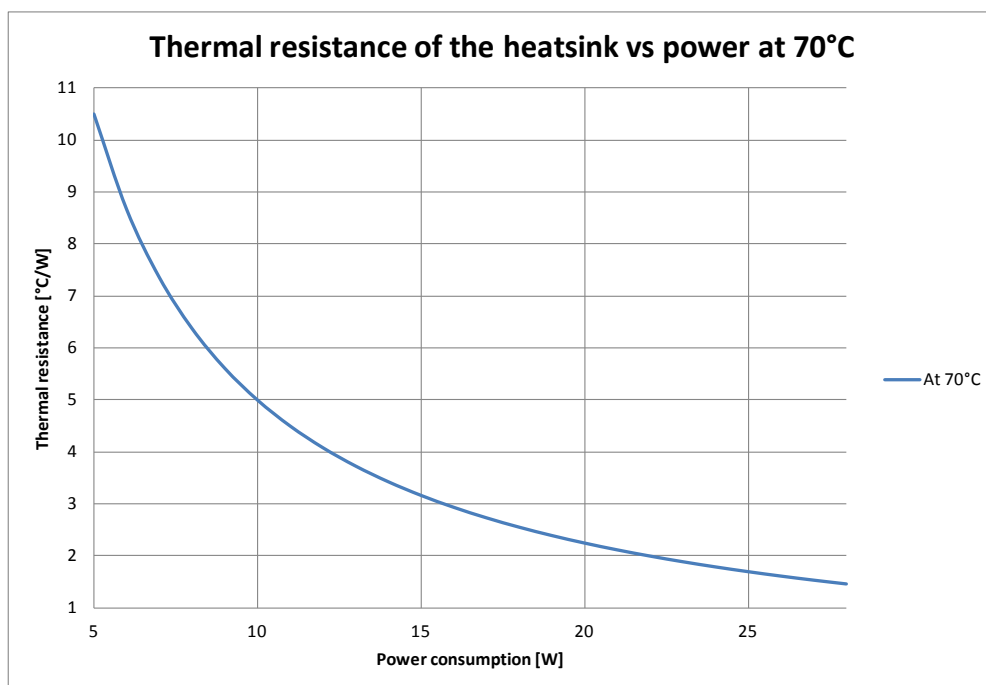

Figure 8-2: Maximum thermal resistance depending on the power consumption, at +70°C.
- ➔ At +70°C, depending on the power consumption, on the Figure 8-2.